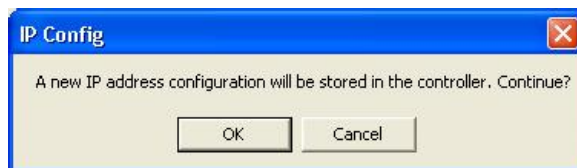

Figure 52. IP Config confirmation dialog window.
7. Set Subnetmask 255.255.252.0 and then click **Set IP**. The new address will be sent to the Controller and an IP Config window re-opens, see Figure 52.